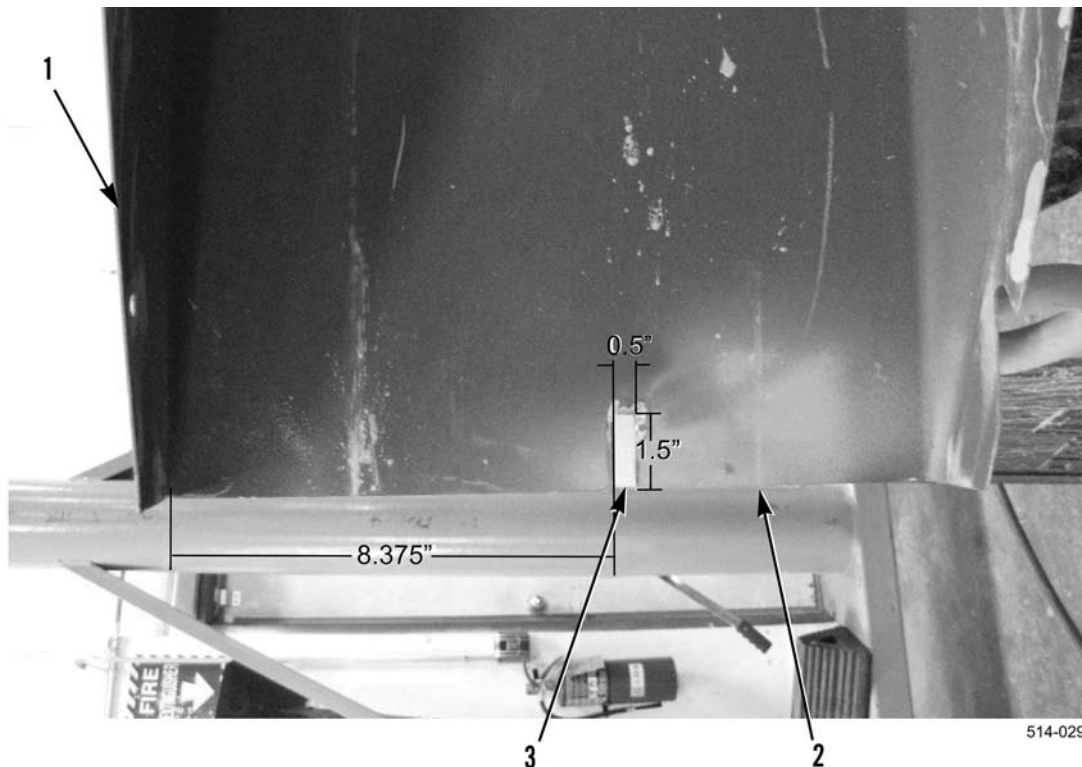

Figure 12. HEMTT A4 Hydraulic Cover Modification.
32. At bottom edge of hydraulic cover (Figure 12, Item 2) measure and mark 8.375 in. from inboard edge (Figure 12, Item 1) of hydraulic cover.
33. At marked point, measure and cut a notch (Figure 12, Item 3) that is .5 in. wide and 1.5 in. long as shown in Figure 12.